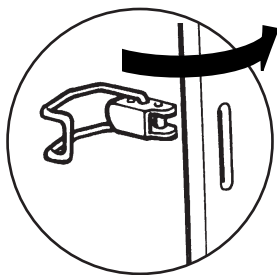

Fig. 91
7. Release the four latches holding the combustion box door (Fig. 91). Remove the combustion box door by pulling forward (Fig. 93).